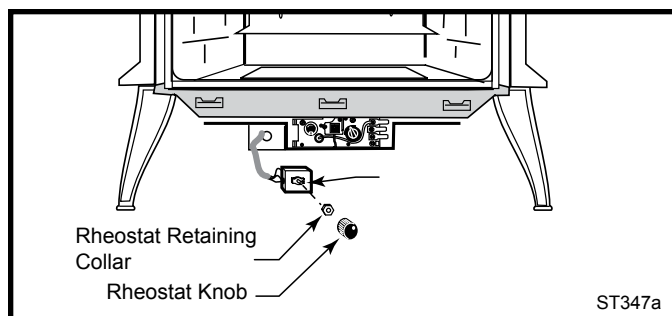

Figure 17 Attach the fan rheostat.
4. The rheostat control switch attaches to the left side of the valve bracket at the front of the stove. (Figure 17)